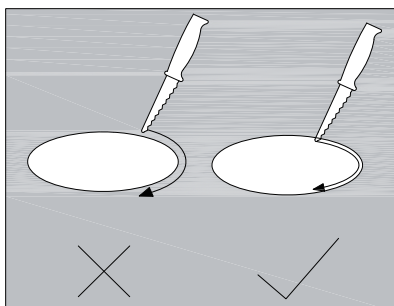

Fig.3
- Connect the ground wire to the yellow-green wire in the junction box. Connect the power supply leads to the black and white wires in the junction box (black on black, etc...). Secure with quick-connect terminals. If using 0-10V dimming, connect the PURPLE lead to the supply POSITIVE dimming lead. Connect the PINK lead to the supply NEGATIVE dimming lead. If NOT using 0-10V dimming, ensure PURPLE and PINK 0-10V dimming leads are properly capped (Fig. 3, Figure A).